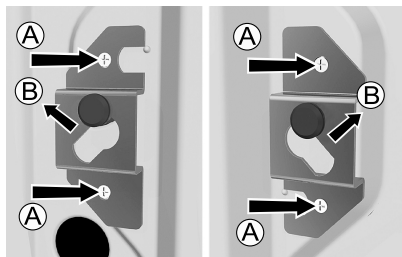

Fig. 1
- Loosen screws A at the rear of the machine (Fig. 1).
- Remove the brackets B (Fig. 1) and slide them into the groove on the blocking rod (Fig. 2) - the right one should be turned around.